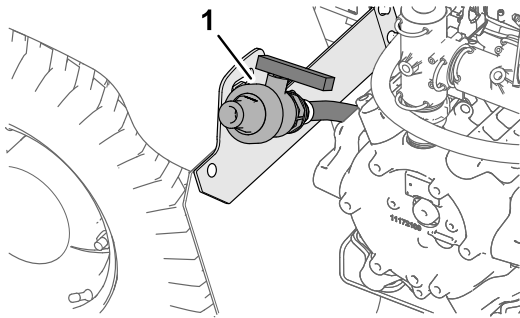

Figure 40
2. Locate the tank-drain valve at the left, rear fender of the machine (Figure 40).